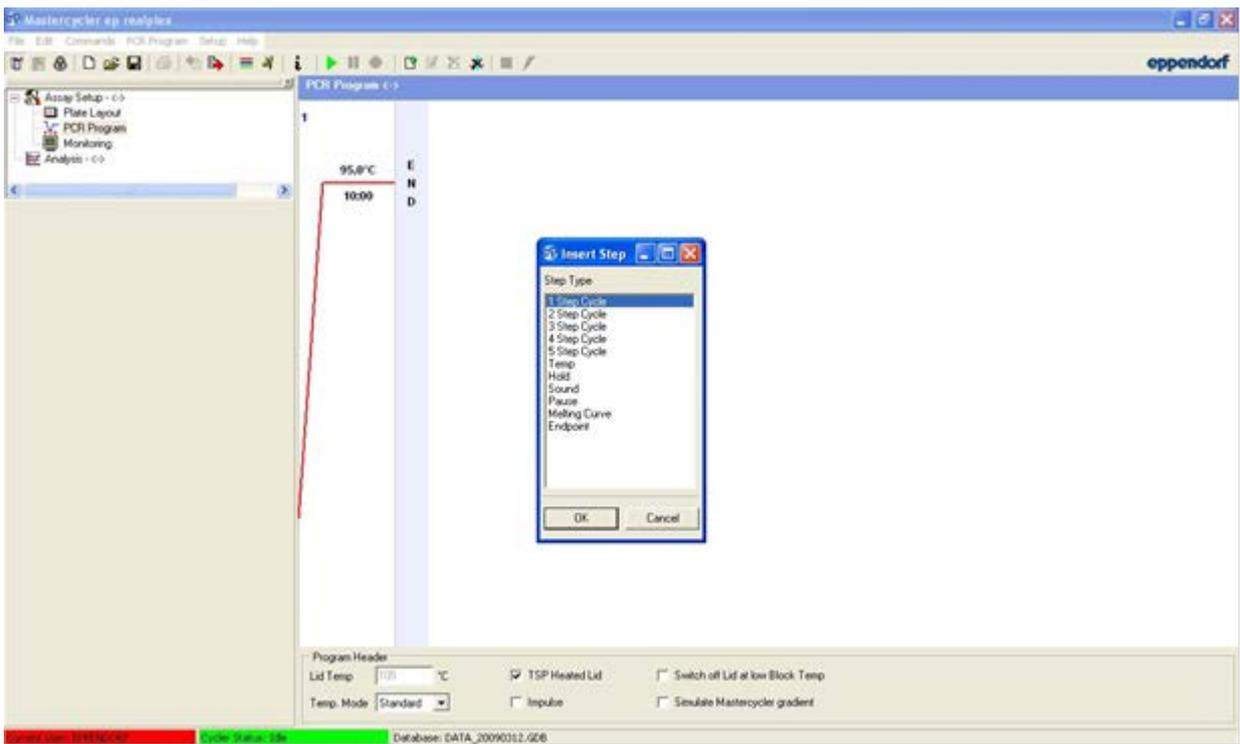

Figure 5. Adding 2-Step Cycle.
10. Right-click on END. Select "Add Step", then select "2 Step Cycle" and click OK (Figure 5).